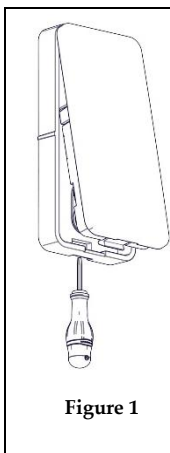

Figure 1
1. Open the detector plastic cover from the bracket (see Figure 1).
1. Open the detector plastic cover from the bracket (See Figure 1).